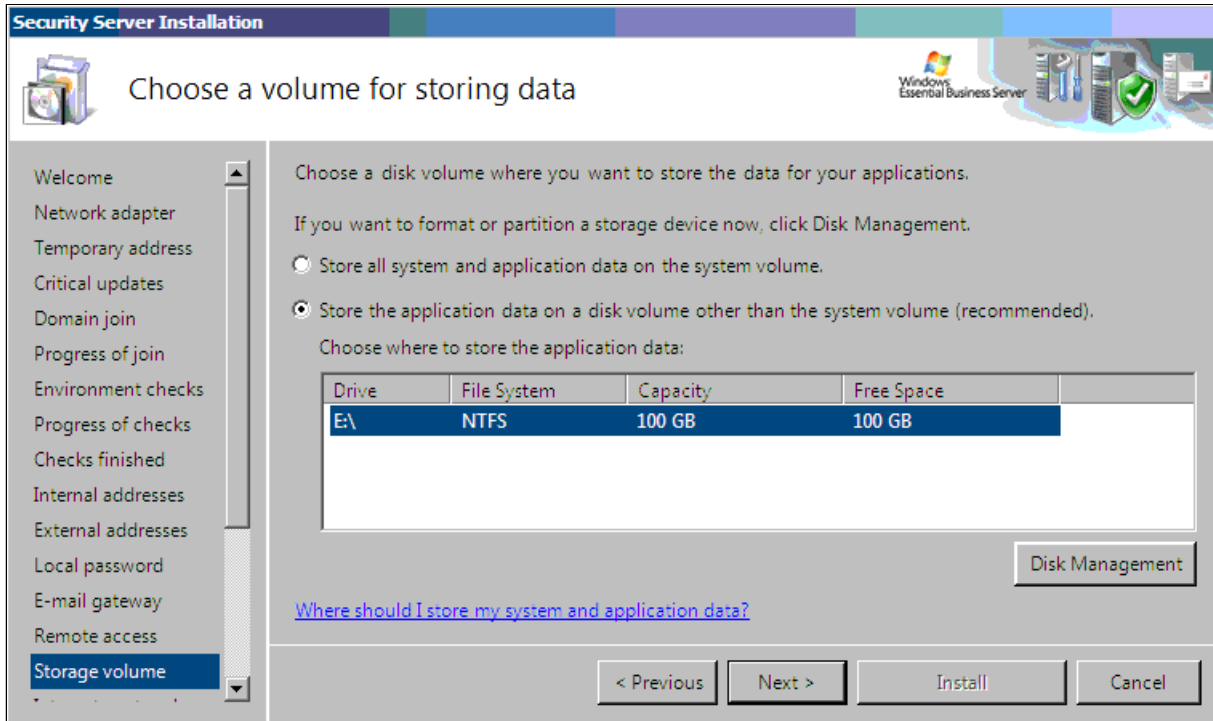

Figure 4-32 Choose a volume for storing data
22. On the “Choose a volume for storing data” panel (Figure 4-32), you can choose to store application data on a volume that is separate from your system volume. In our environment, we prepared a 100 GB RAID-5 volume, dedicated for storing security server data. Select the **Store the application data on a disk volume other than the system volume (recommended)** radio button. Click **Next**.